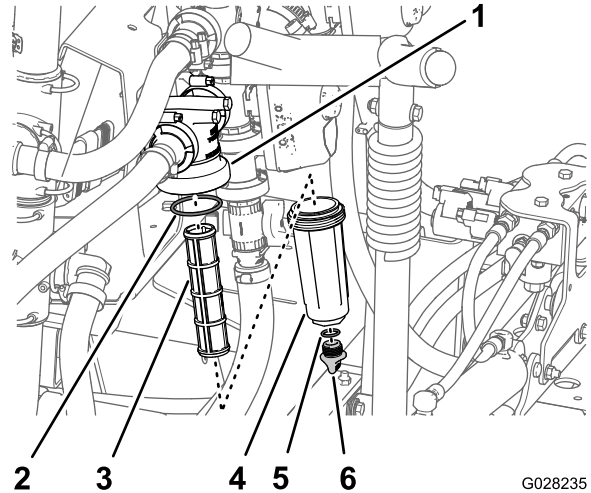

Figure 73
2. Align a drain pan under the pressure filter (Figure 73).
3. Rotate the drain plug counterclockwise and remove it from the bowl of the pressure filter (Figure 73).
4. Rotate the bowl counterclockwise and remove it from the filter head (Figure 73).
5. Remove the old pressure filter element (Figure 73).
6. Check the O-ring for the drain plug (located inside the bowl) and the O-ring for bowl (located inside the filter head) for damage and wear (Figure 73).
7. Install the new pressure filter element into the filter head (Figure 73).
8. Install the bowl onto the filter head hand tight (Figure 73).
- Install the plug into the bowl hand tight (Figure 73).